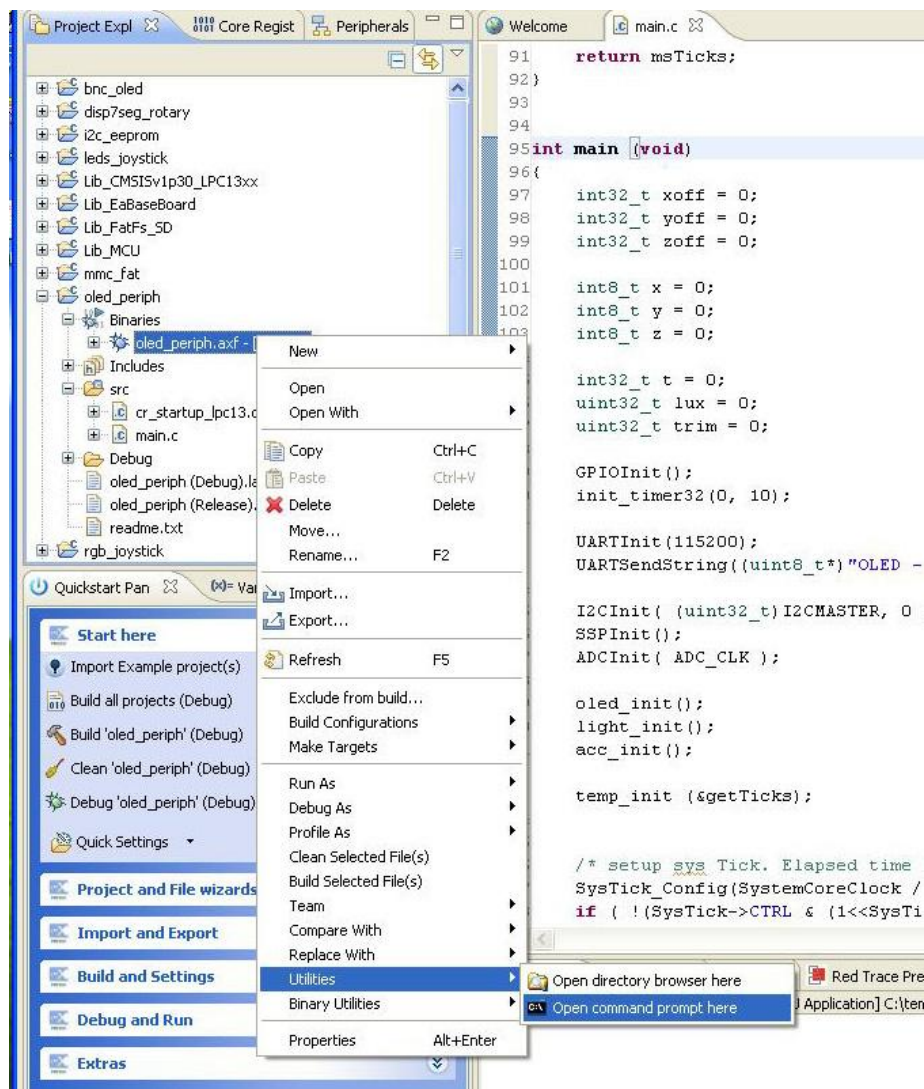

Figure 7 – LPCXpresso IDE Open Command Prompt
3. Open a command prompt in the directory containing the axf file. This can be done from the Utilities menu, see *Figure 7*.